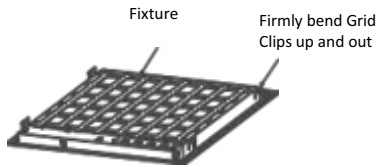

Fig. 1
1. Firmly bend the pre-installed Grid Clips (up and out as shown in Fig. 1)